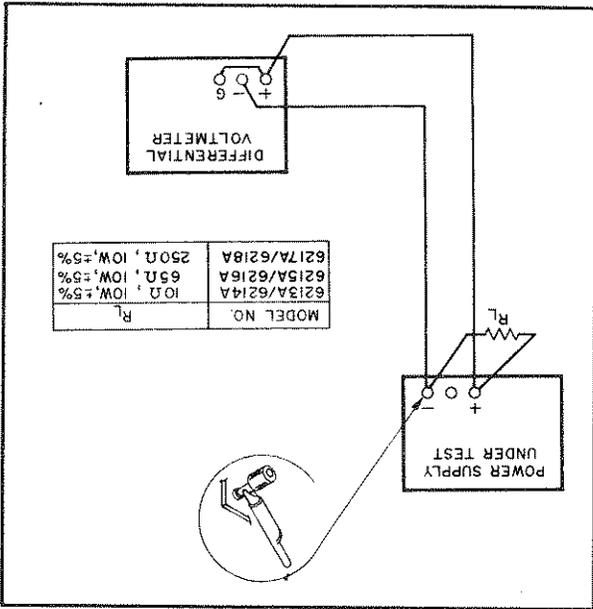

Figure 5-3. CV Load Regulation, Test Setup
- a. Connect test setup as shown in Figure 5-3.
- b. Connect test setup shown in Figure 5-3.
- a. Connect load resistor ( $R_L$ ), indicated in Figure 5-3, across the output terminals of supply.
- Connect the load resistance and differential voltmeter as illustrated in Figure 5-3.